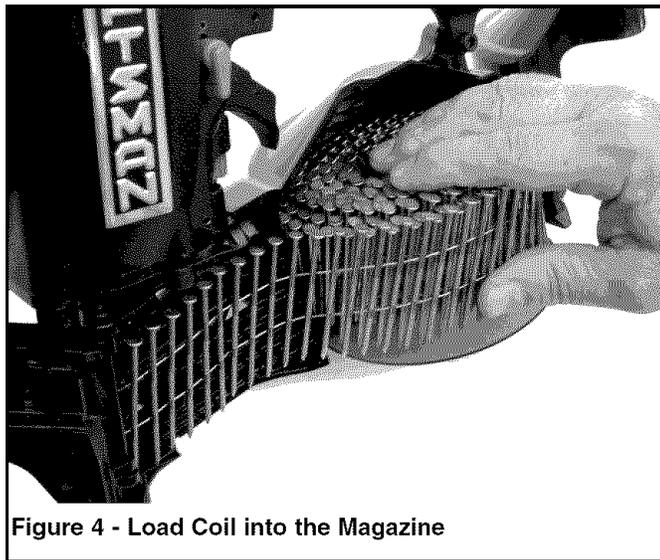

Figure 4 - Load Coil into the Magazine
- Remove rubber band or tape holding nail coil. Place coil over the spindle of nail holder in magazine (see Figure 4).